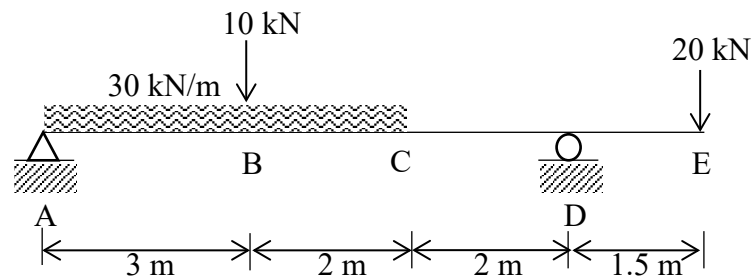

Figure A2(a) / Rajah A2(a)
- (a) The overhanging beam is subjected to a point load and uniformly distributed load as shown in Figure A2(a). By using the Influence Line Diagram Method, calculate: